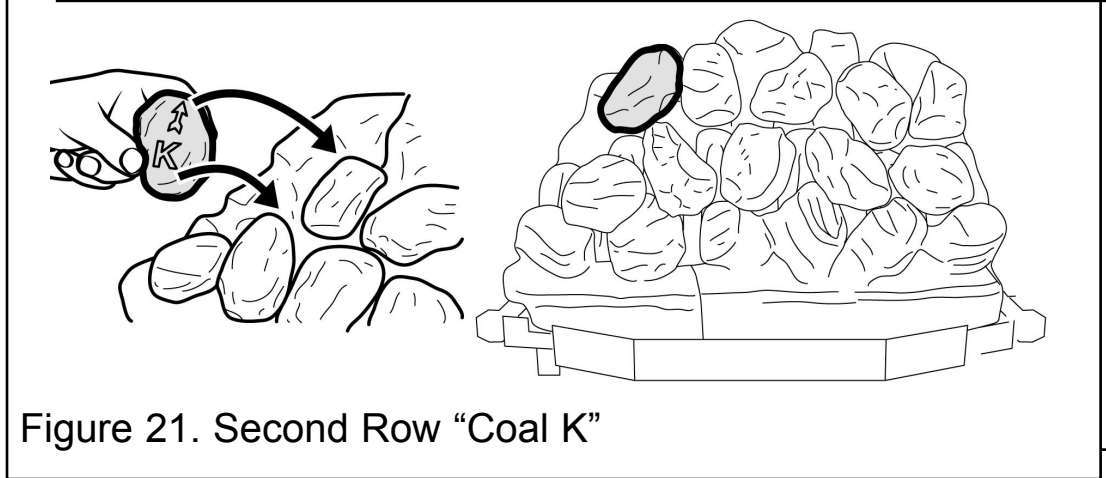

Figure 21. Second Row "Coal K"
19. Hold coal 'K' upright with the arrow pointing to the top. Locate coal 'K' as shown in figure 21